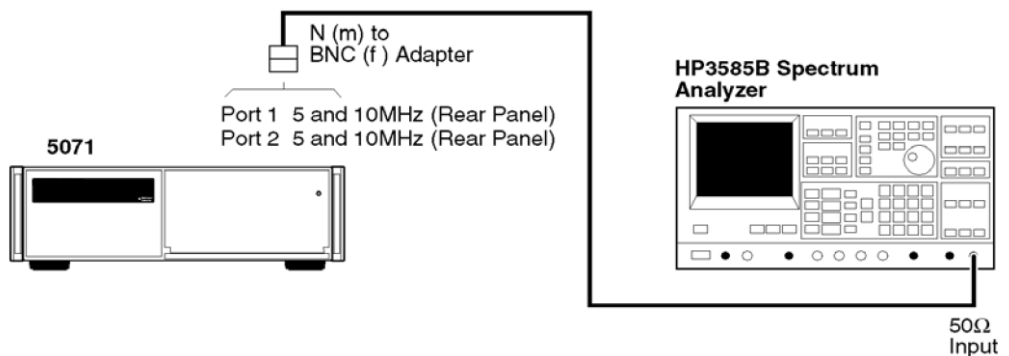

Figure A-4. Non-Harmonic Distortion Test Setup
- 1 Connect the 5071A Port 1 to the 3585B analyzer as shown in Figure A-4. Set the 3585B for 50 Ω input impedance.